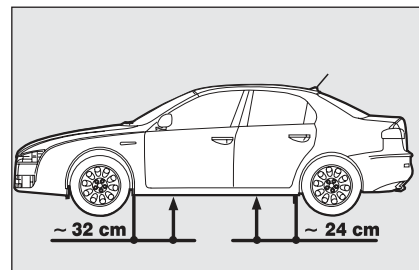
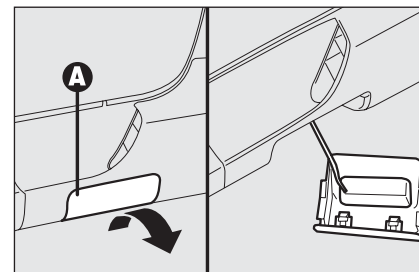

fig. 7
fig. 9
- ☐ The jack shall be fitted as shown in **fig. 7** (for versions fitted with sideskirts, before fitting the jack, remove cover **A-fig. 9** set on the sideskirt as shown in the figure);